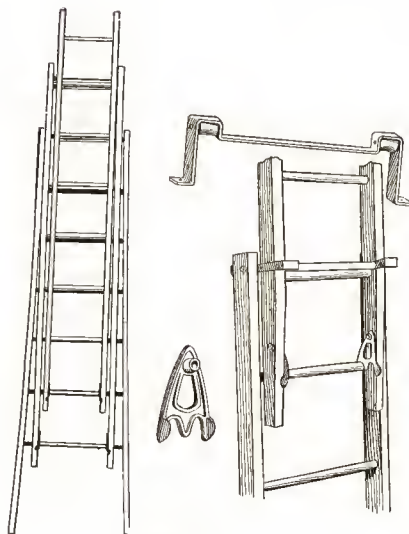
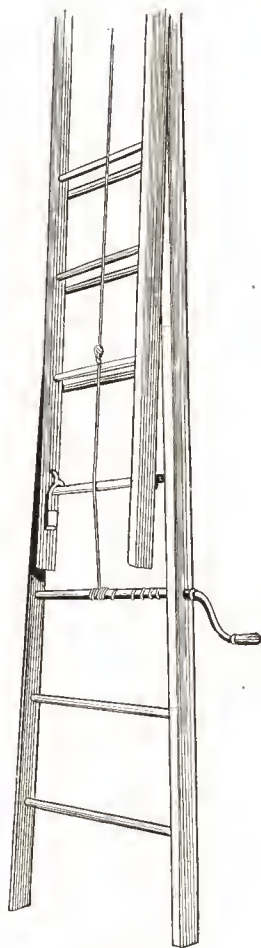

FIG. 27
FIG. 28
**Extension Ladders:** These are practically the same type as Long Ladders, plus mechanical devices shown in Figure 27 which permit fastening two or three long ladders together, one atop of the other to make them one extremely long ladder.
**Windlass Extension Ladders:** There is an English type of extension ladder which has a windlass in the bottom section to raise the upper sections by winding the crank, instead of pushing the upper sections up by hand as is commonly done with ordinary extension ladders. A rope is tied to the upper section of ladder at the bottom. Then the rope is passed through a pulley or block at the top of the lower ladder section. Turning the windlass handle winds the rope up and raises the upper ladder easily. See Figure 28.
**Rope Extension Ladders:** These are made like Figure 28 but without the windlass. A rope is tied to the bottom rung of the upper ladder, is thrown over the top rung of the lower section. By pulling on the rope the upper section is raised. A locking hook device—Figure 29—is bolted onto the inside of the side-rails at the bottom of the upper ladder, as shown in Figure 28. These hooks take hold of the rungs of the lower ladder as the upper ladder is hoisted up into place. Of course, the double roller top iron shown in Figure 27 is used too on the top of the lower ladder.